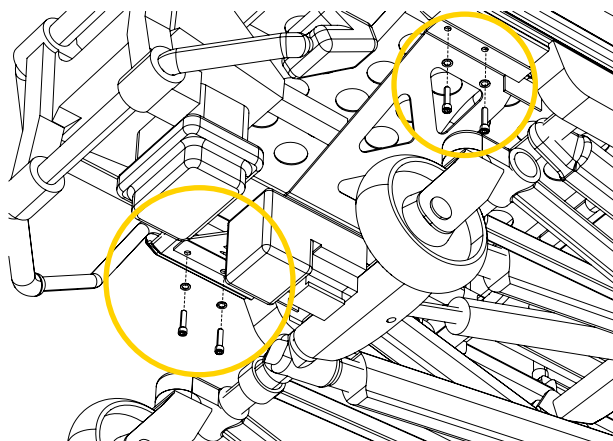

Figure 6: Removing the Power-LOAD system screws
5. Identify the Power-LOAD foot end fastener assembly (herein after referred to as Power-LOAD system) located under the stretcher, at the patient foot end (Figure 6).
6. Remove the four (4) screws, four (4) washers and two (2) spacers to loosen the Power-LOAD system (Figure 6). Set aside the Power-LOAD system and its hardware temporarily. The stretcher spacers will not be reused for this specific installation.